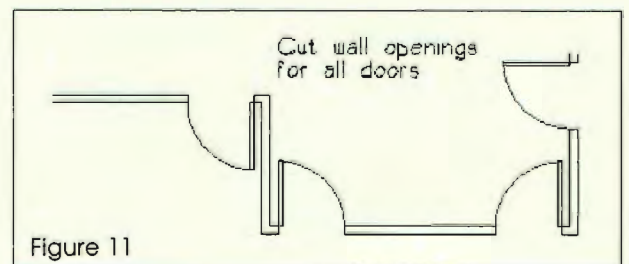

Figure 11
5. The wall will be cut! You can continue doing this for all doors, as shown in Figure 11. It is a good idea to always object snap to the hinge side first, to see clearly that you grabbed the correct side of the door before the cut. It is easier to say "oops", and press mouse button 3 to try again, than to clean up the cut wall.